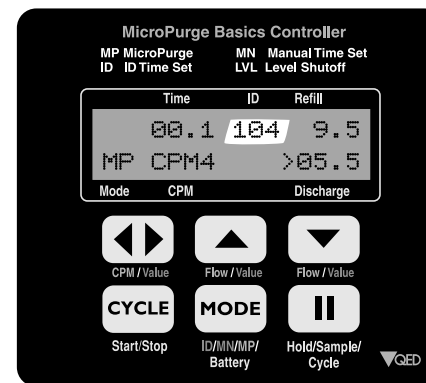

Figure 6
14. If the drawdown level exceeds the selected drawdown limit point too consistently, the purge flow rate can be further decreased with adjustment of the controller through one or more presses of the flow "DOWN" arrow key (see Figure 6 below). If the flow rate is already at or near a minimum desired rate, in some cases it may be also possible to lower the probe to a new, lower drawdown control point to increase the well recovery rate. Consult the site Sampling and Analysis Plan and regulatory guidance before adjusting purging protocols.